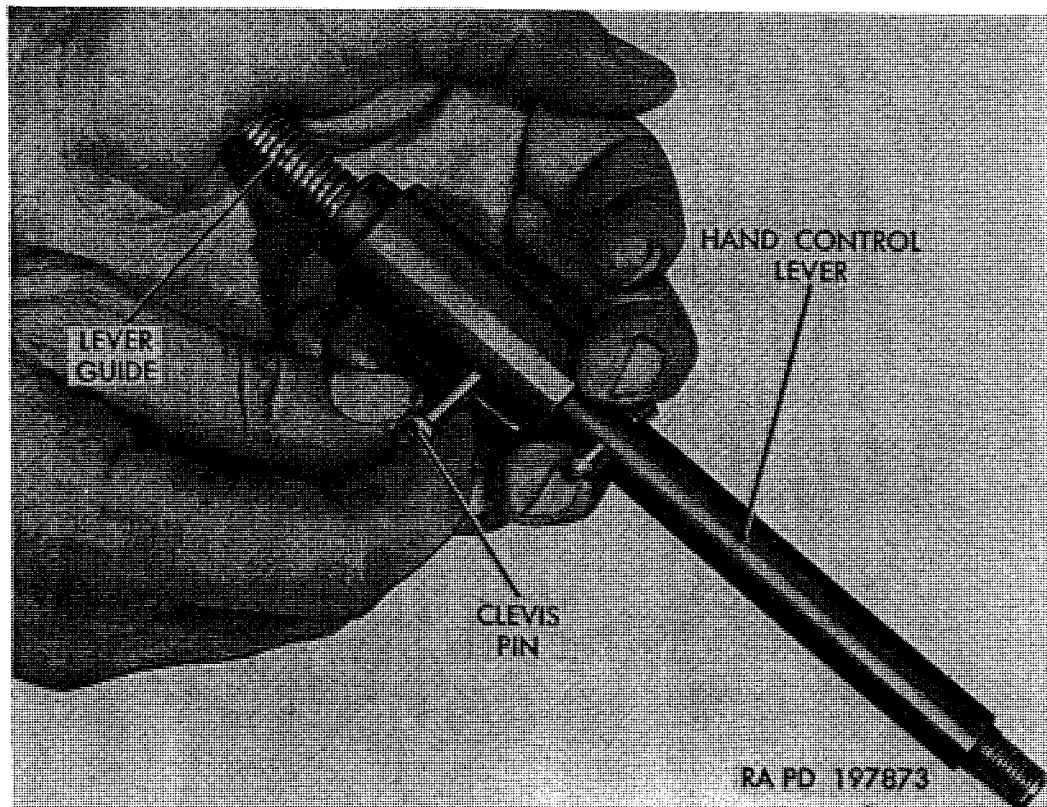
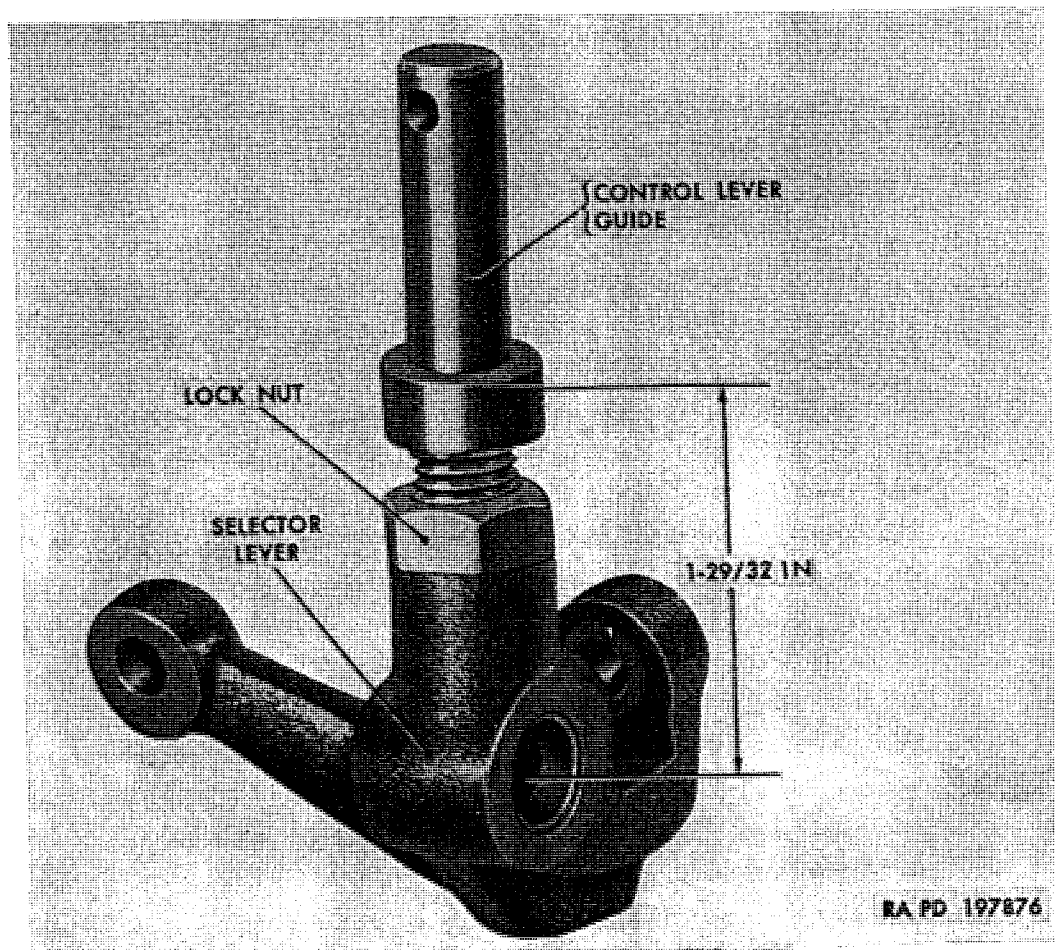

Figure 203. Disassembling gearshift hand control lever.
Figure 205. Adjusting guide and selector lever.
- operating lever (Z) to operating-lever-to-cross-shaft-pick-up-lever rod (PP). Remove housing and lever.
- (14) Remove nut (JJ) and flat washer (KK); then remove operating lever (Z) and hand control lever (DD) from cross shaft housing (BB).
- (15) Remove bearing (EE) from cross shaft housing (BB) only if inspection shows necessity for replacement.
- (16) Remove operating-lever-to-cross-shaft-pick-up-lever rod (PP) through opening at bottom of control tower (SS).
- (17) Remove spring clip (N) from clevis pin (T); then remove clevis pin from fulcrum (S).
- (18) Pull rods as an assembly from top of control tower (SS).
- (19) Remove nut (AG); then remove selector-lever-to-transmission-shift-lever rod (AE) from selector lever (AH).
- (20) Remove nut (V); then remove selector-lever-to-reduction-unit-idler-lever rod (AF) from selector lever (AH).
- (21) Loosen locknut (K) and remove selector lever (AH) from gear-shift hand control lever guide (J). Remove bearing (U) from selector lever (AH) only if inspection shows necessity for replacement.
- (22) Remove cotter pin (L) and washer (M); then while holding assembly against spring pressure as shown in figure 203, remove clevis pin (G) from gearshift hand control lever (F).
- (4) Install $\frac{1}{2}$ -20 locknut (K) on gearshift hand control lever guide (J); then thread guide into selector lever (AH) to $1\frac{29}{32}$ -inch dimension shown in figure 205, measured from gearshift hand control lever guide spring (H) seat on gear shift hand control lever guide (J) to centerline of bearing hole in selector lever. Tighten locknut against selector lever.
- (5) If bearing (U) was removed from selector lever (AH), tap new bearing into place, using plastic hammer.
- (6) Position gearshift hand control lever guide spring (H) over end of gearshift hand control lever guide (J).
- (7) Install gearshift hand control lever guide spring (H) and guide (J) into end of gearshift hand control lever (F), alining hole in guide with slot in lever.
- (8) While compressing assembly against spring pressure in manner shown in figure 203, install clevis pin (G) through slot in gearshift hand control lever (F) and into hole in gearshift hand control lever guide (J).
- (9) Retain clevis pin (G) in assembly by installing $\frac{7}{32}$ -inch plain washer (M) and cotter pin (L) on end of clevis pin.